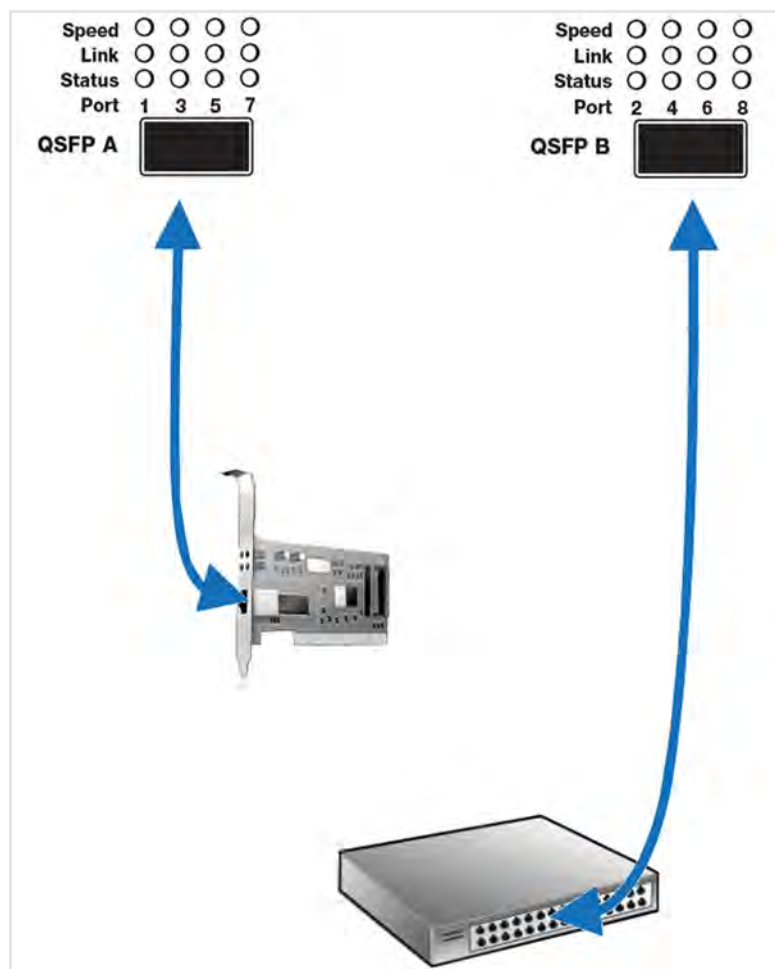

Figure 2.19: M328Q Analyzer with QSFP – 4XSFP Connections
4. Connect the devices under test to port pairs P1/P2, P3/P4, P5/P6 and/or P7/P8. See Figure 2.19.